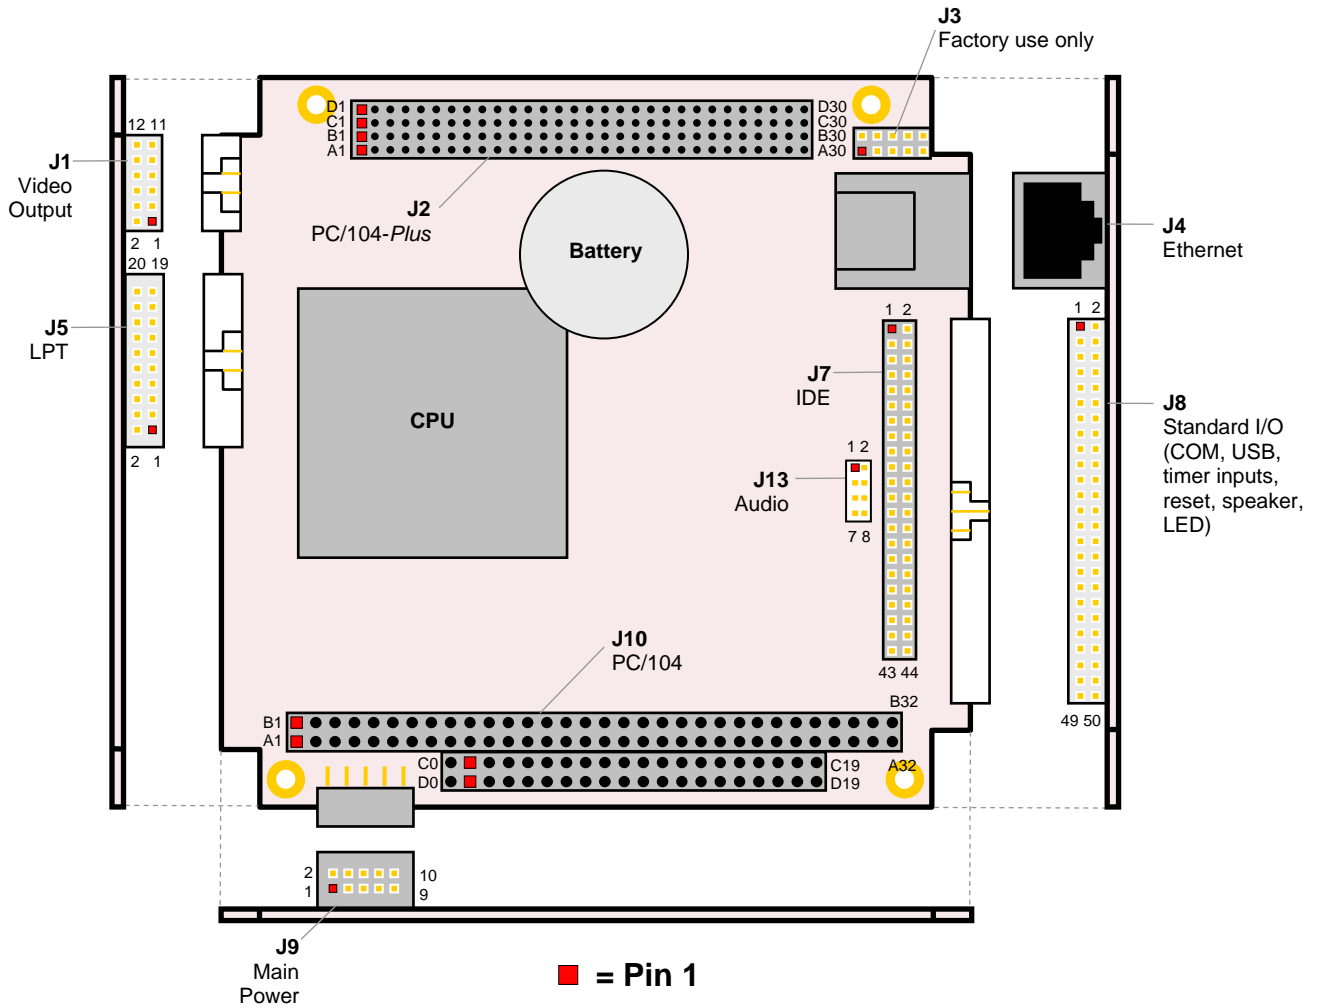

Figure 8. Connector Locations (Top)
1. The PCB Origin is the mounting hole to the lower left, as shown in Figures 8.